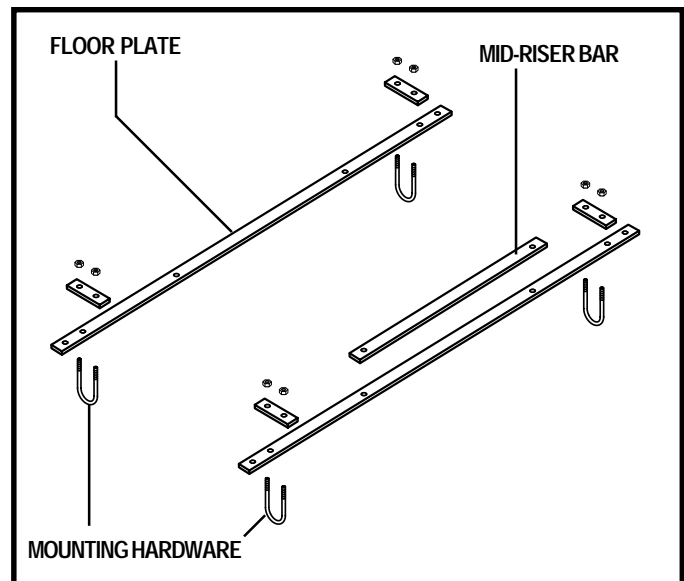

Figure 1. Basic Securement System Installation
3. Position a securement system floor plate over each set of floor locks that hold the rear seat to the floor of the van. See figure 1.
4. Secure each floor plate to the floor of the van using the supplied mounting hardware. See figure 1. Do not fully tighten the mounting hardware at this time.
5. Position the mid-riser bar over the floor plate closest to the rear of the vehicle, aligning the mounting holes in the mid-riser bar with those in the floor plate. See figure 1.